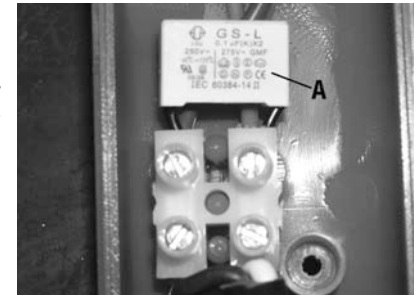

Figure 1
This heat gun is equipped with a thermal protector (A) Fig.1. If overheating occurs, it will automatically turn the heat gun off. If this occurs, unplug the heat gun from the power source and allow it to cool down before attempting to turn it back on.